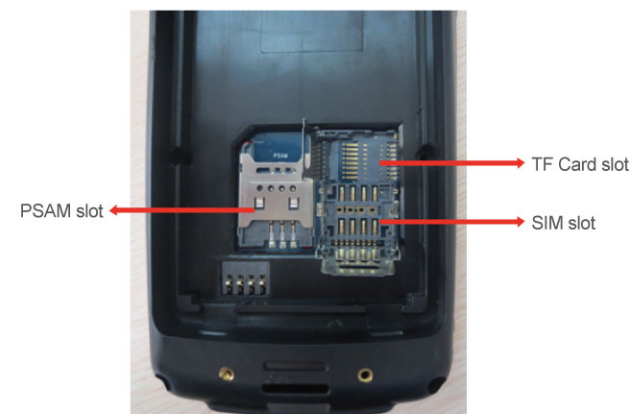

Figure 2-2-1
- 4) Push the SIM Card slot to indicate direction of 'OPEN', and open the lid (Position: as shown in Figure 2-2-1);